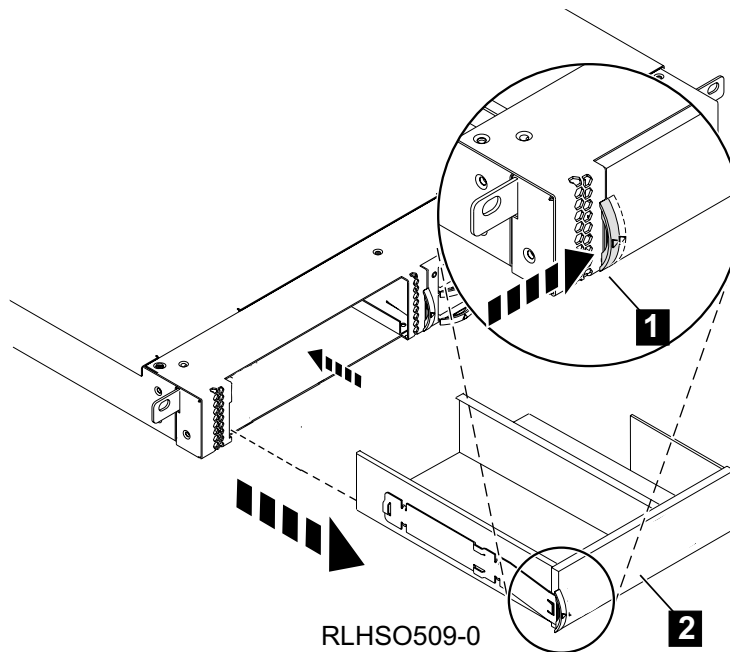

Figure 6. Removing the Bay Blank Assembly
1. Push the latch (see **1** in Figure 6) towards the blank assembly.